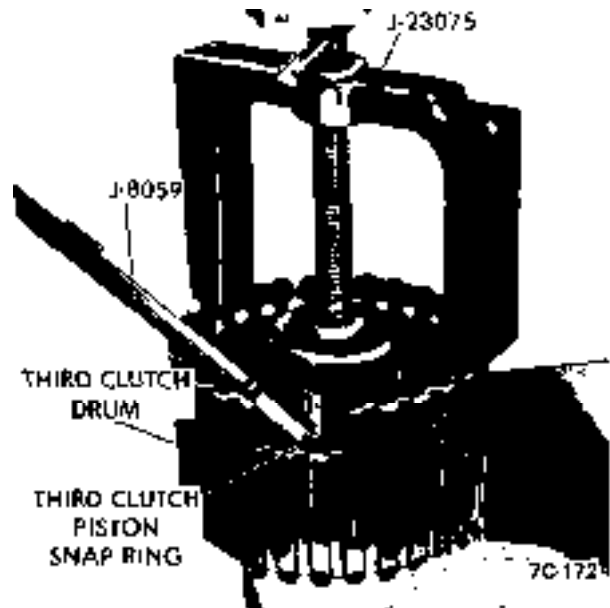

Figure 7C-172
4. Remove third clutch plates from third clutch drum. See Figure 7C-171. The plates should be kept in the same sequence as they were installed in the clutch.